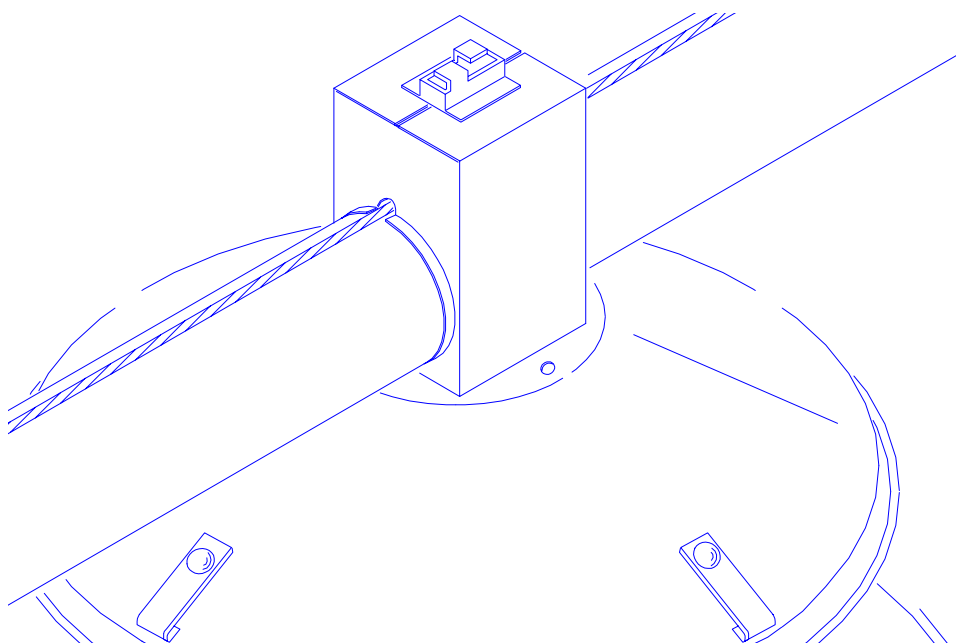

Figure 43. Winch Cable Routing
4. Thread the cable through every Drop Tube to support the cable and keep it in position. See Figure 43.